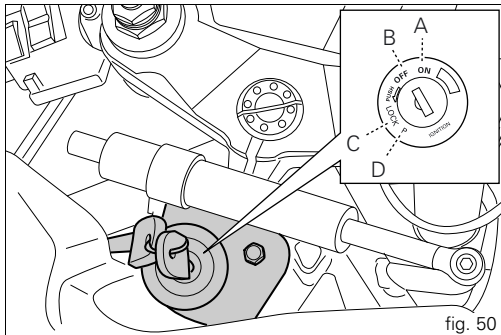

fig. 50
1) Move the ignition key to ON (fig. 50). Make sure both the green light N and the red light  on the instrument panel come on.